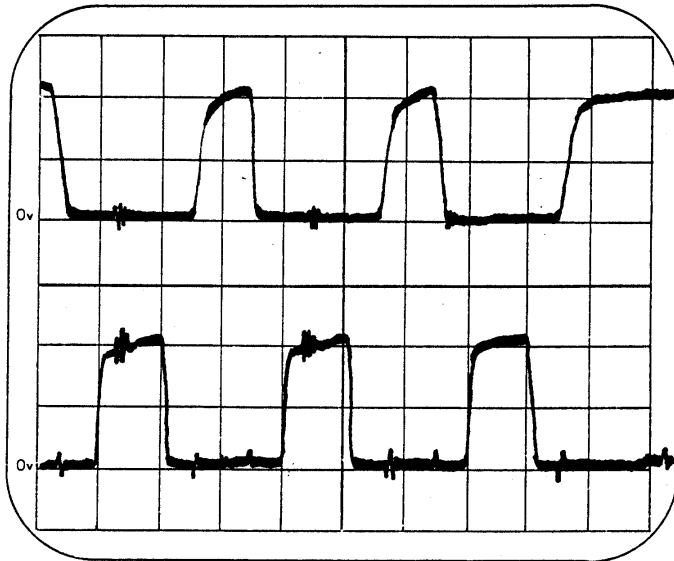
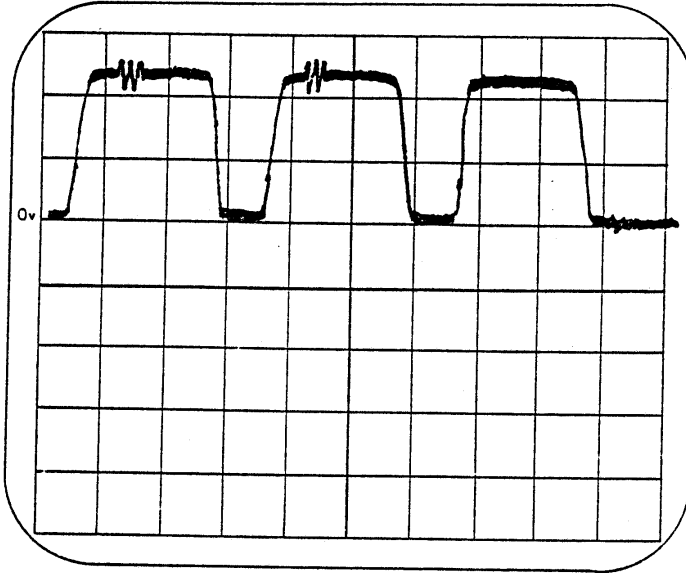

Figure 3-2. Waveforms for Test Points 3 and 4
Figure 3-6. Waveform for Test Point 6
3. TP3 should be HIGH. (Refer to Figure 3-2).
3. With machine running, trigger scope on TP2 falling edge and observe test points TP3 (zone D5, Figure 3-2), TP4 (zone D2, Figure 3-2), or TP6 (zone D2, Figure 3-6). Set the scope to .5 microseconds/division.